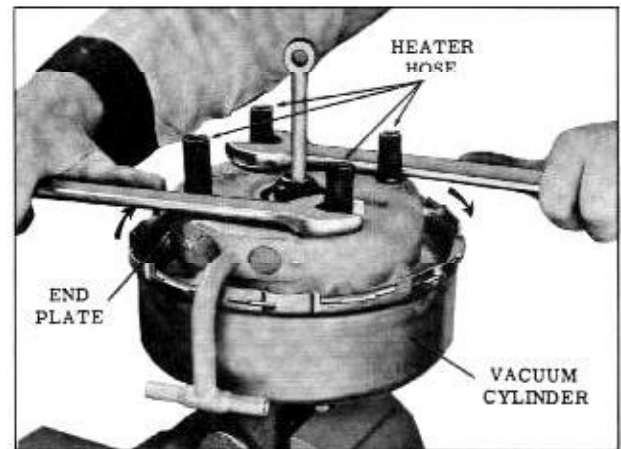

Fig. 7-26 Installing End Plate
9. Depress and rotate end plate clockwise until end plate is locked to vacuum cylinder. (Fig. 7-26)